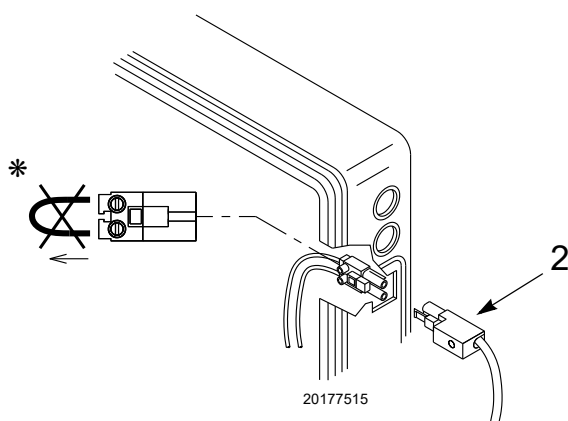

Fig. 2
- Insert the 2-pin plug from the outside of the burner 2)(Fig. 2).
* For the kit code 20175404, remove the wire bridge from the XP2 socket as indicated in Fig. 2 and the wiring diagram of the burner manual.